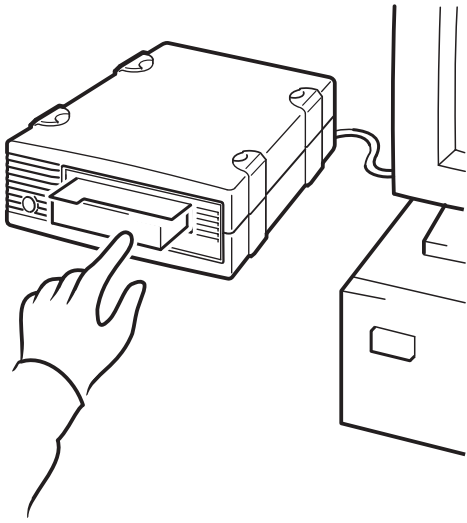

Figure 10a: using HP OBDR, step 1
- 1 Lift the cartridge door and insert the latest bootable cartridge in the tape drive (see Figure 10a). The cartridge must be written by a backup application that writes data to tape in CD-ROM format.